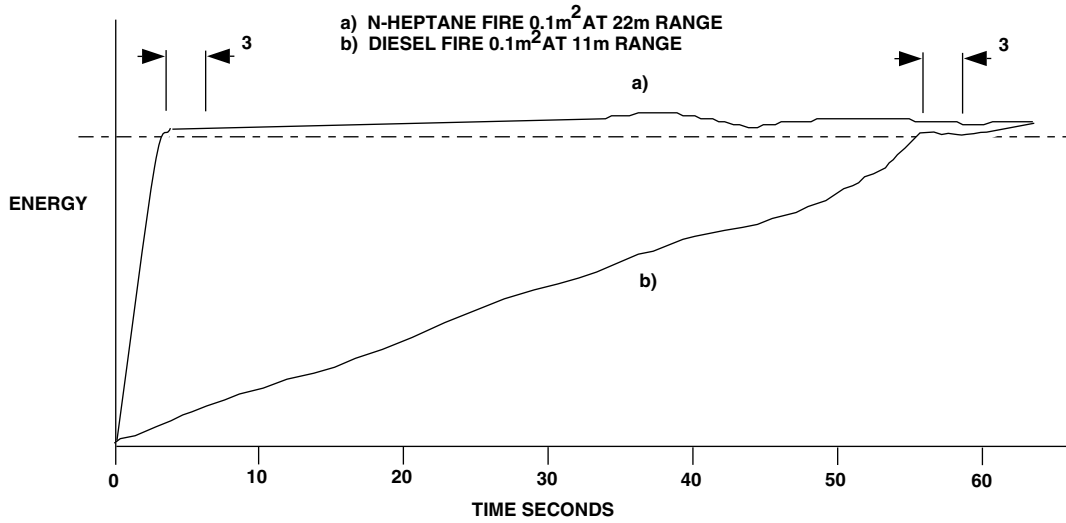

Fig. 4 Typical Response to Fires
It is important to think in terms of distance rather than time because of the burning characteristics of different fuels. Fig. 4 shows the typical response of two different fuels which ultimately produce the same signal level. The signal level given by n-heptane quickly reaches its maximum, and produces an alarm in approximately six (6) seconds after ignition. Diesel, being less volatile, takes approximately sixty (60) seconds to reach equilibrium burning state and an alarm is given approximately fifty-five (55) seconds after ignition.